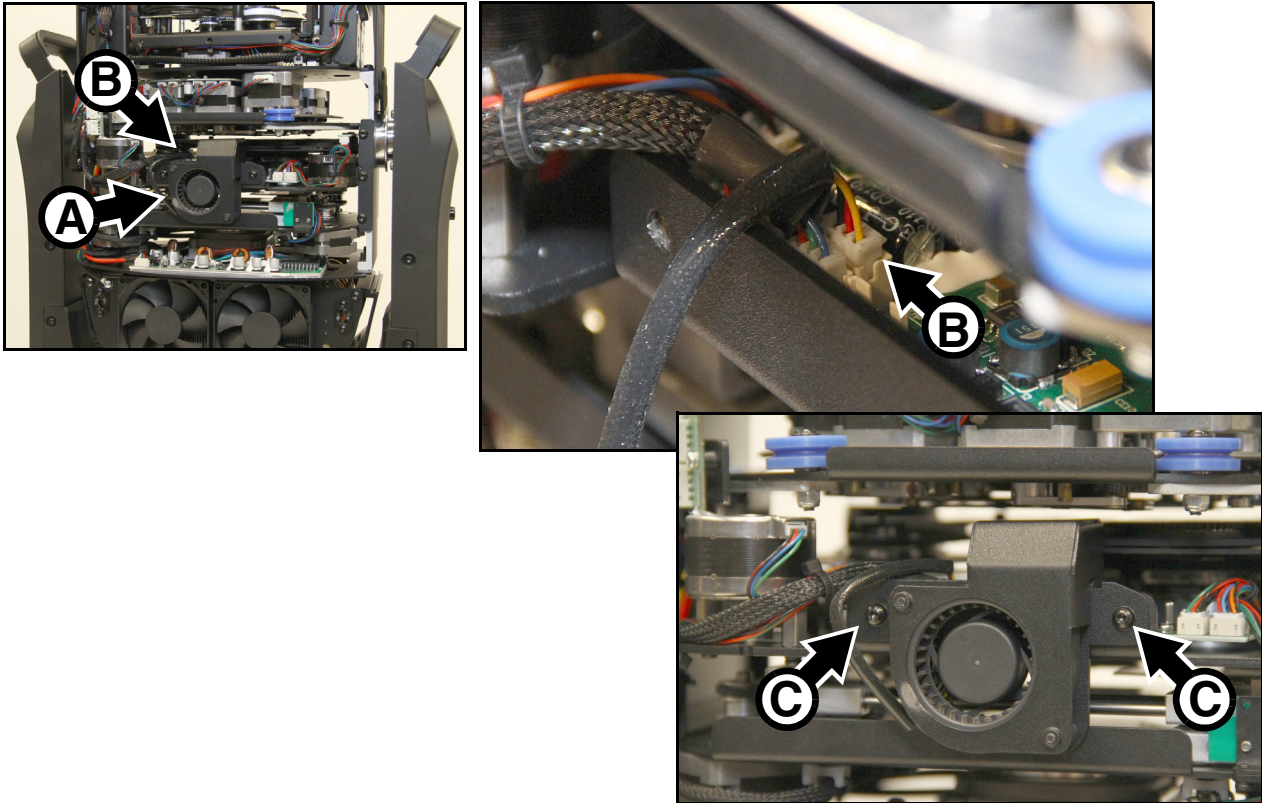

Figure 11: Removing the effects fan
2. See Figure 11. Position the head so that the effects cooling fan **A** is facing you. You are now looking at the bottom of the head.